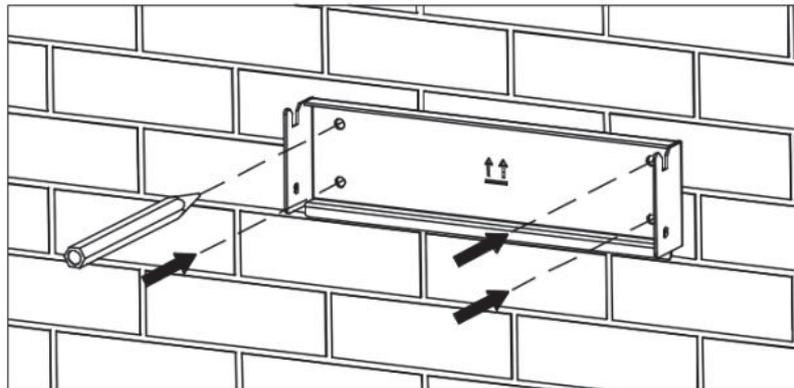

Figure 4.4 Determine the punch position
- (1) Put the mounting plate on the wall to determine the punch position. As shown in Figure 4.4. Level the holes with a level ruler and mark it with a marking pen.